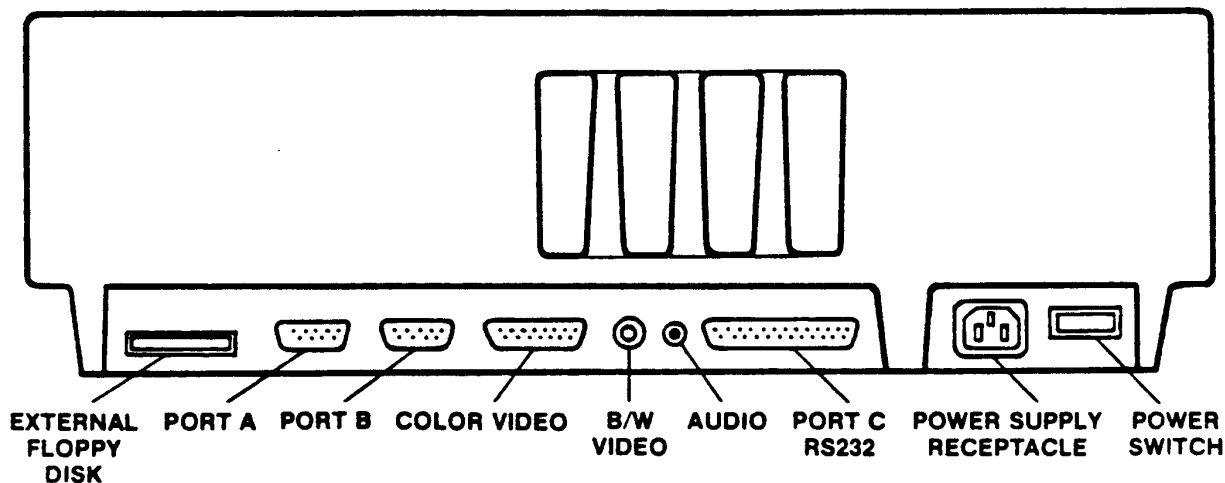

FIGURE 1.1
2. Disconnect all external cables. Refer to Figure 1.1.